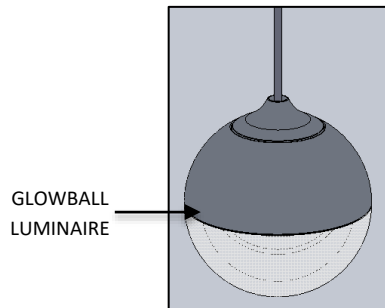

FIG. 2 GLOWBALL LUMINAIRE
1. GLOWBALL LUMINAIRE with CORD attached. (Pre-assembled as shown in FIG. 2)